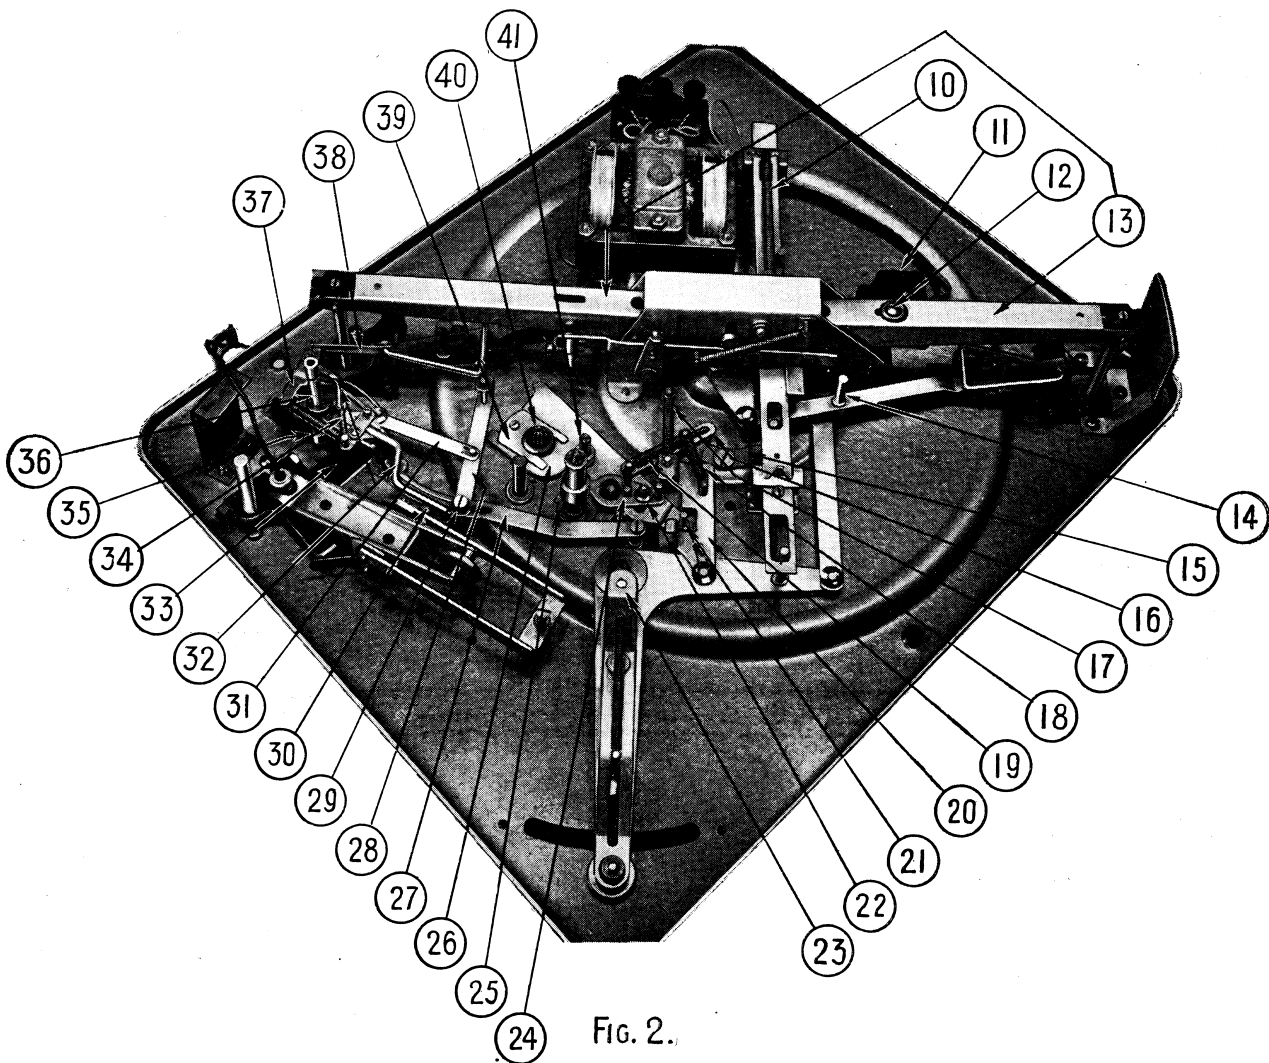
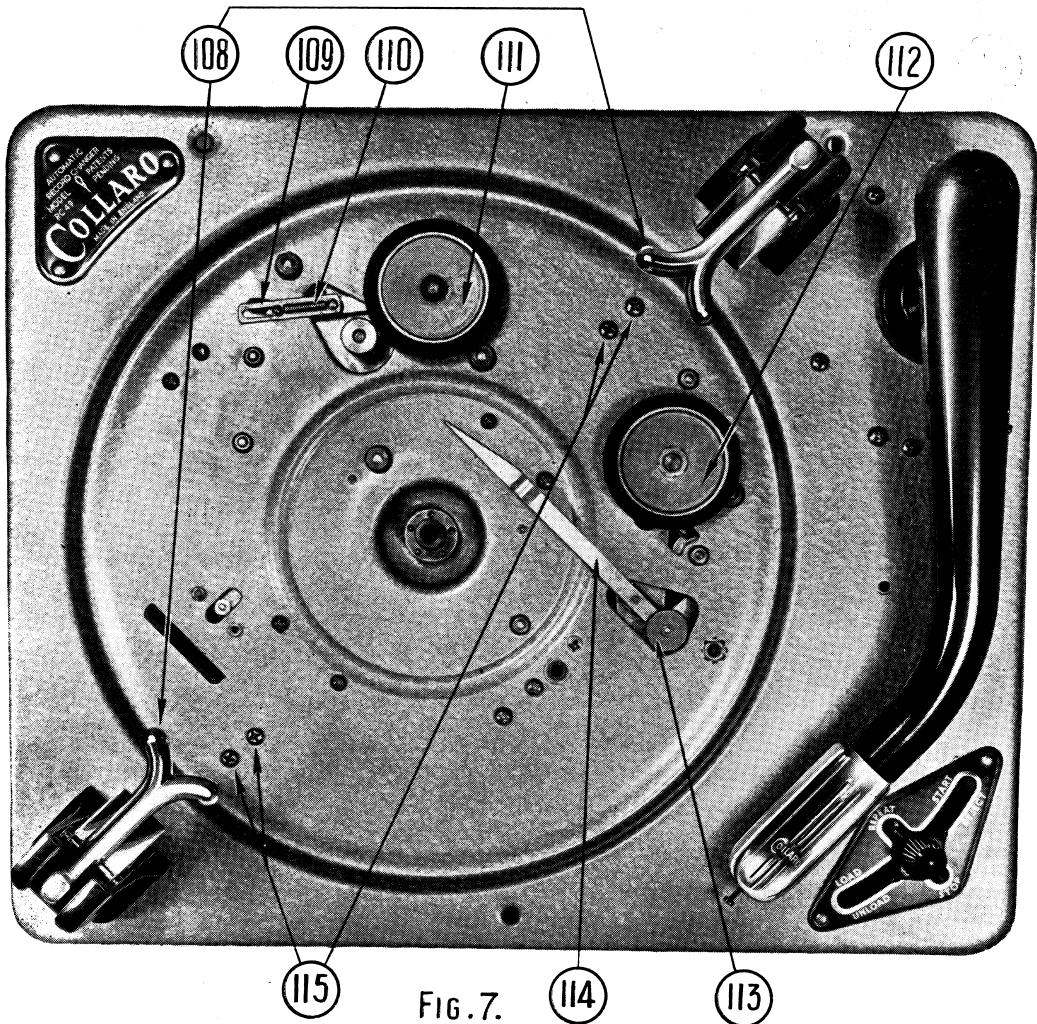

FIG. 2.
FIG. 7.
When the last record falls from the step in the record spindle to the turntable, the Balancing Arms (108) fall to their lowest position and the head of the balancing arm lift lever Coupling Pin (65) lifts the Switch Trip Link (72) so that the peg of the Switch Trip Link Adjuster (73) engages with a peg in the Positioning Cam Setting Slide (101) when the latter is moved horizontally during the change cycle by the Positioning Cam Setting Lever (99). This results in the switch trip lever (71) being disengaged from a niche in the Control Bar (70), which is then pulled back by the Spring (10), opening the Motor Switch (11) and releasing the driving surfaces of the Idler Pulley (111) and Drive Pulley (112) from contact with the turntable rim through the action of two elbow levers and two release links. The idler pulley is also released from contact with the brass driving pulley on the motor spindle. One elbow lever (15) and one release link (16) actuating the Drive Pulley are visible in Fig. 2. The elbow lever actuating the Idler Pulley is concealed by the Motor, but the link is shown at (109) in Fig. 7.